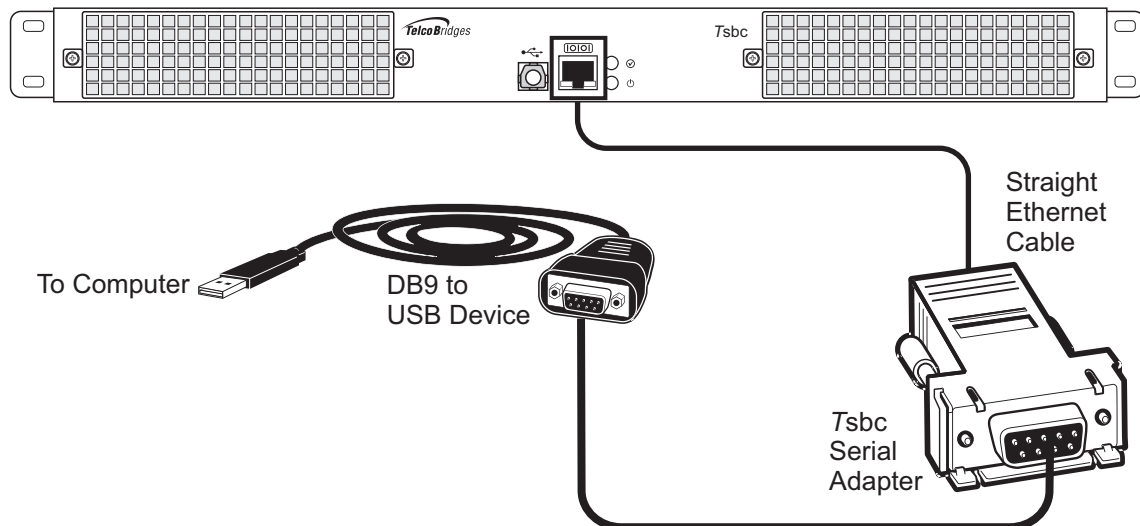

Figure 3.3 Conceptual View of a Serial Connection from the TSBC5000 Series to a Computer
2. If your computer's serial port features a DB9 connector connect directly otherwise use the *Tsbc* serial adapter supplied with your TSBC5000 series. If your computer's serial port features a USB connector, you will need to provide a USB to DB9 adapter. Refer to figure 3.3 on page 48.